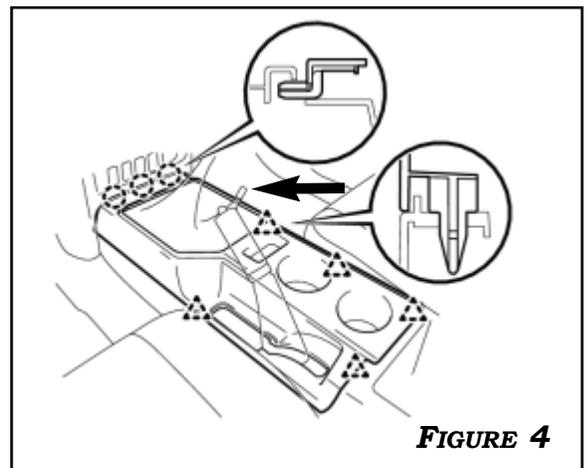

FIGURE 4
4. REMOVE THE SHIFT LEVER KNOB. SHIFT THE SHIFT LEVER INTO THE N POSITION. DISENGAGE THE 5 CLIPS AND 3 CLAWS AND REMOVE THE CONSOLE UPPER REAR PANEL. **FIGURE 4**